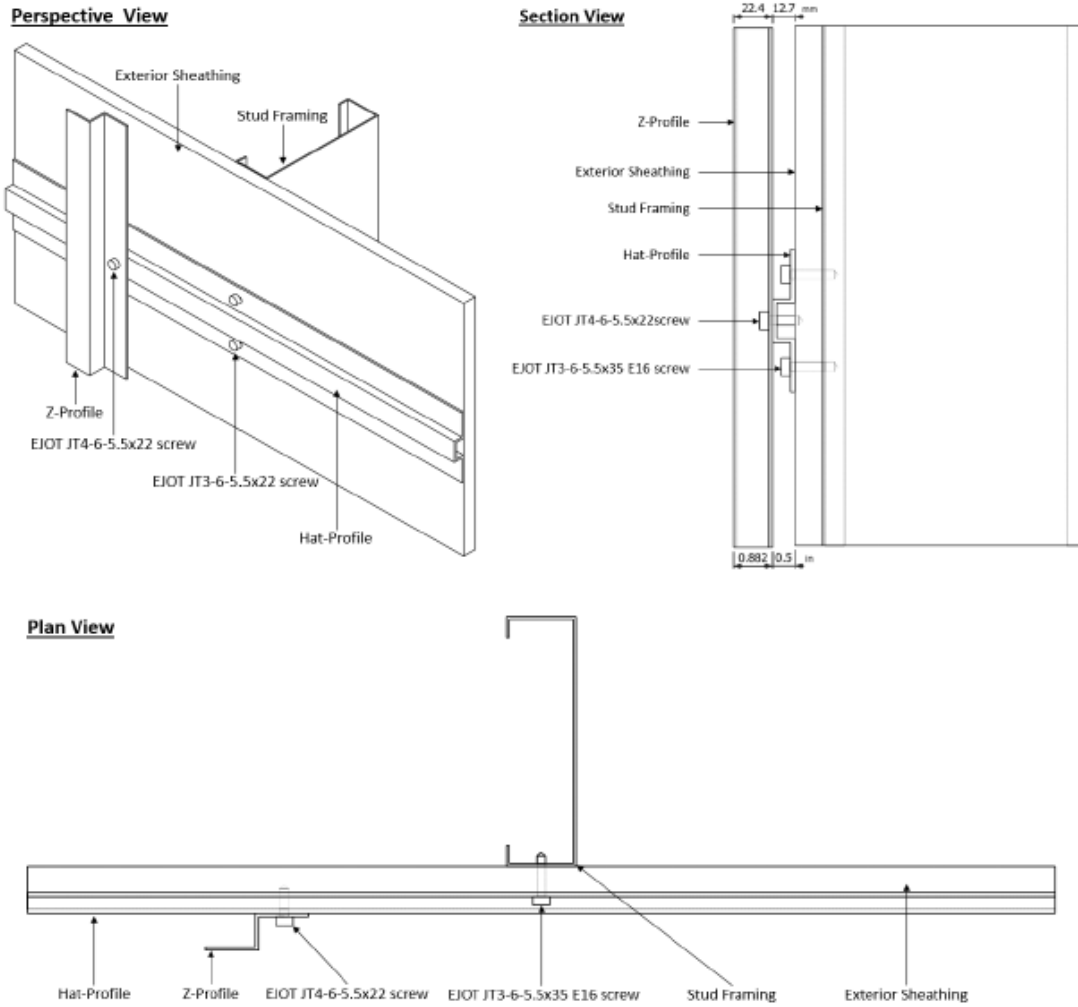

FIGURE 1
4.1 General: The Swisspearl® Fiber-Cement Panel System consists of Swisspearl® Fiber-Cement Panels attached with concealed or visible fasteners to metal brackets, which are connected to aluminum or steel track. The Swisspearl Fiber-Cement Panel System has the following trade names; Slatescape Stone, Slatescape Groove, Slatescape Surface, and Slatescape Blast. Figure 1 of this report illustrates typical bracket profiles and installation illustrations.
4.1.3 System and Profile Descriptions: Descriptions of the attachment systems elements are shown in Table 3 of this report. The 8-mm thick Swisspearl® panels use the Visible Attachment System. See Figure 1 of this report for typical profiles and installation illustrations.